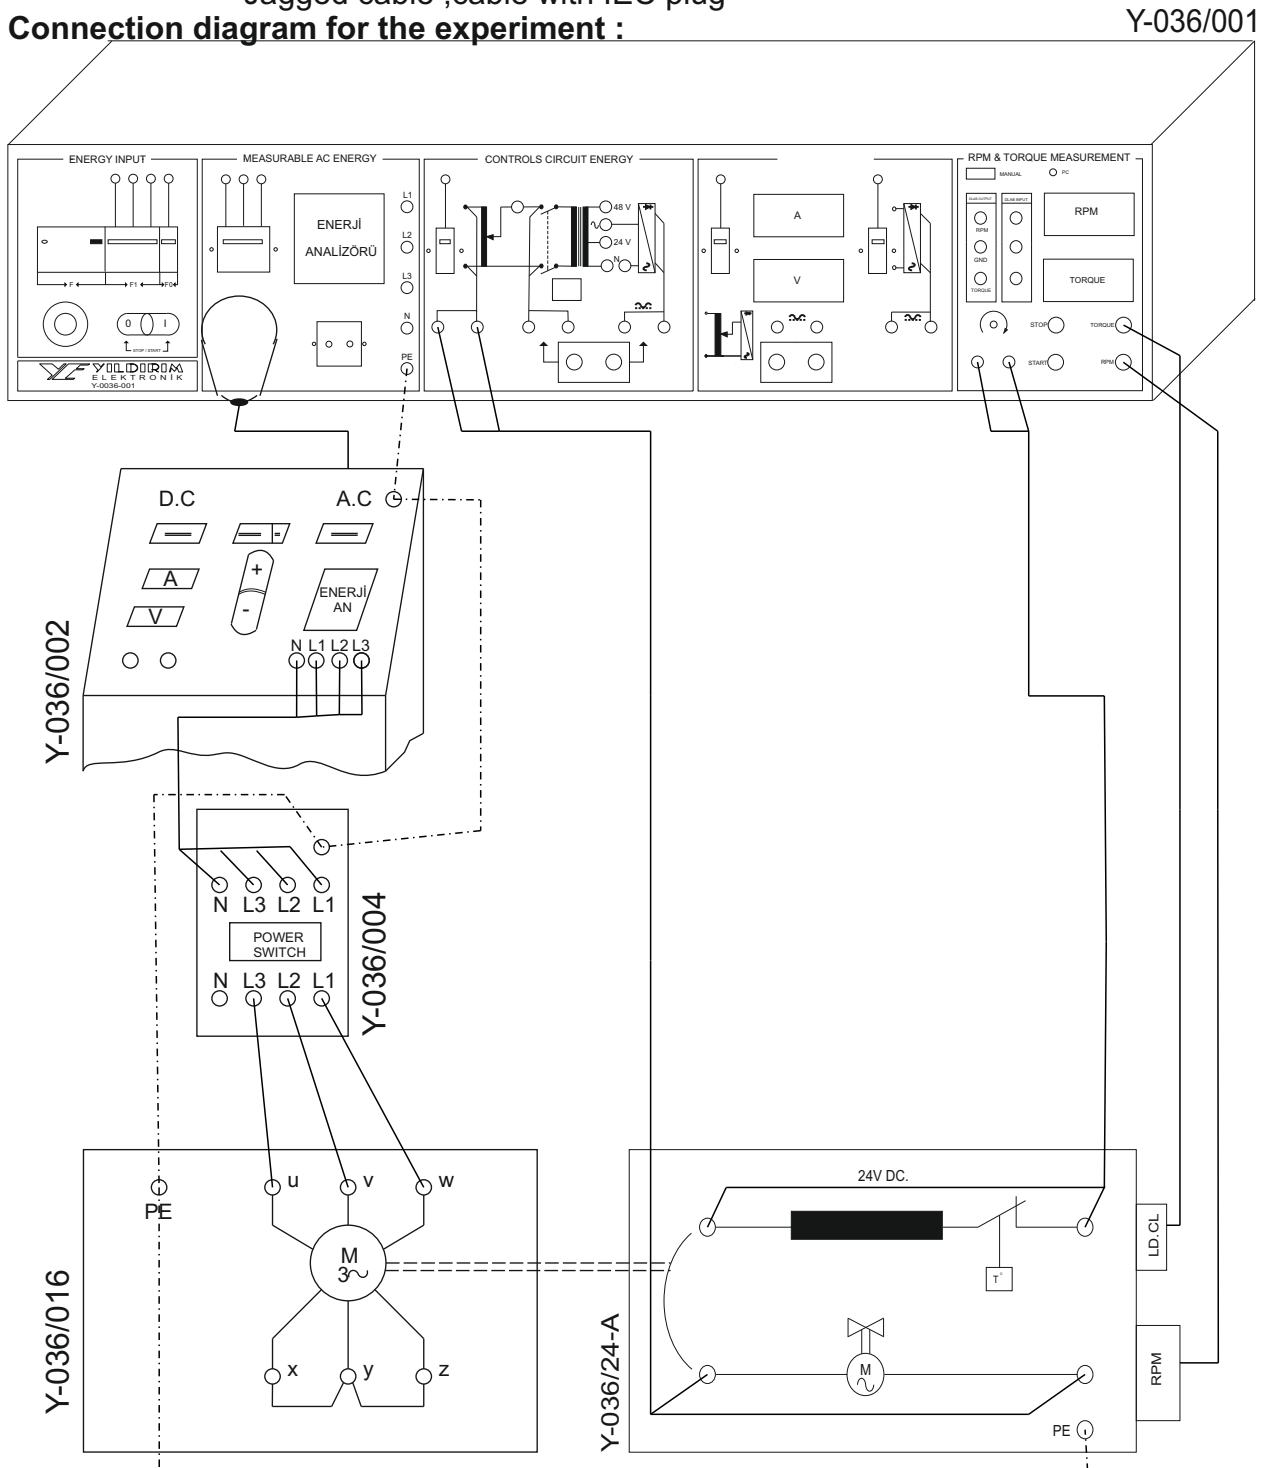

Figure 33.1: Connection diagram for block rotor test of the tri-phase asynchronous motor
- Connect the circuit shown in the figure 33.1, 33.2